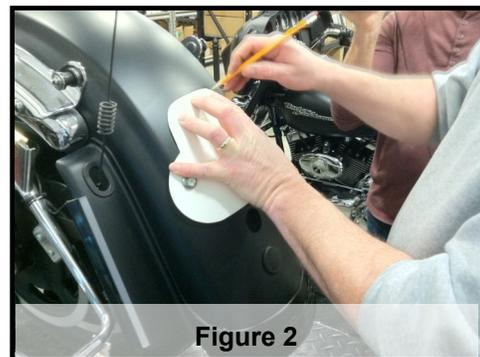

Figure 2
7. Use the 1/2" Bolts for the turn signal bracket and insert them into the two holes on the template, then fit into the appropriate holes on the fender. (See Figure 2)